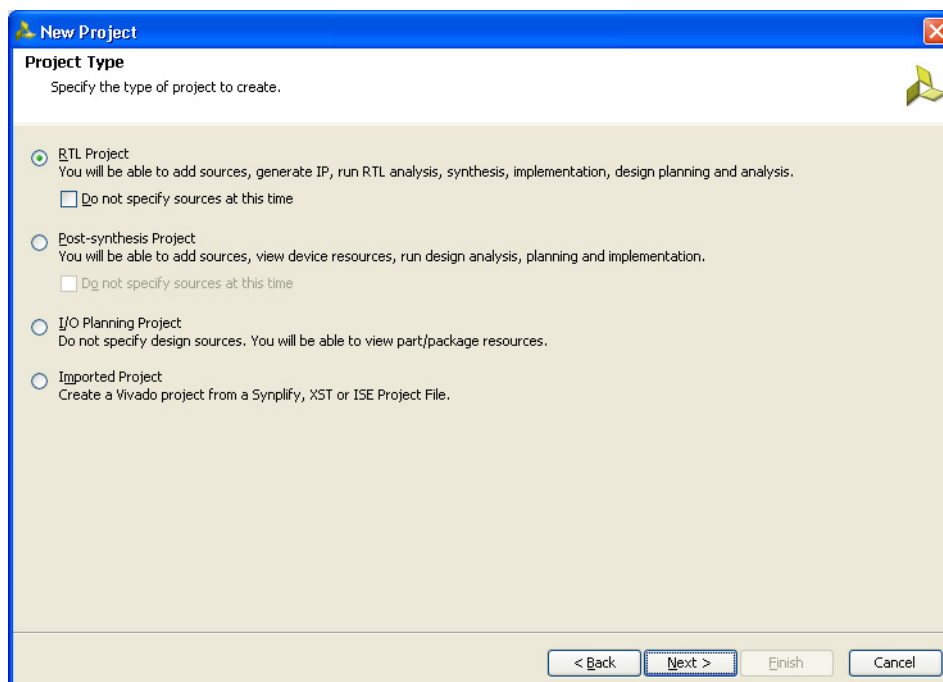

Figure 4-4: Project Type
4. Click **Next** to proceed to the Project Type page (Figure 4-4). Select the Project Type as RTL Project because MIG deliverables are RTL files.